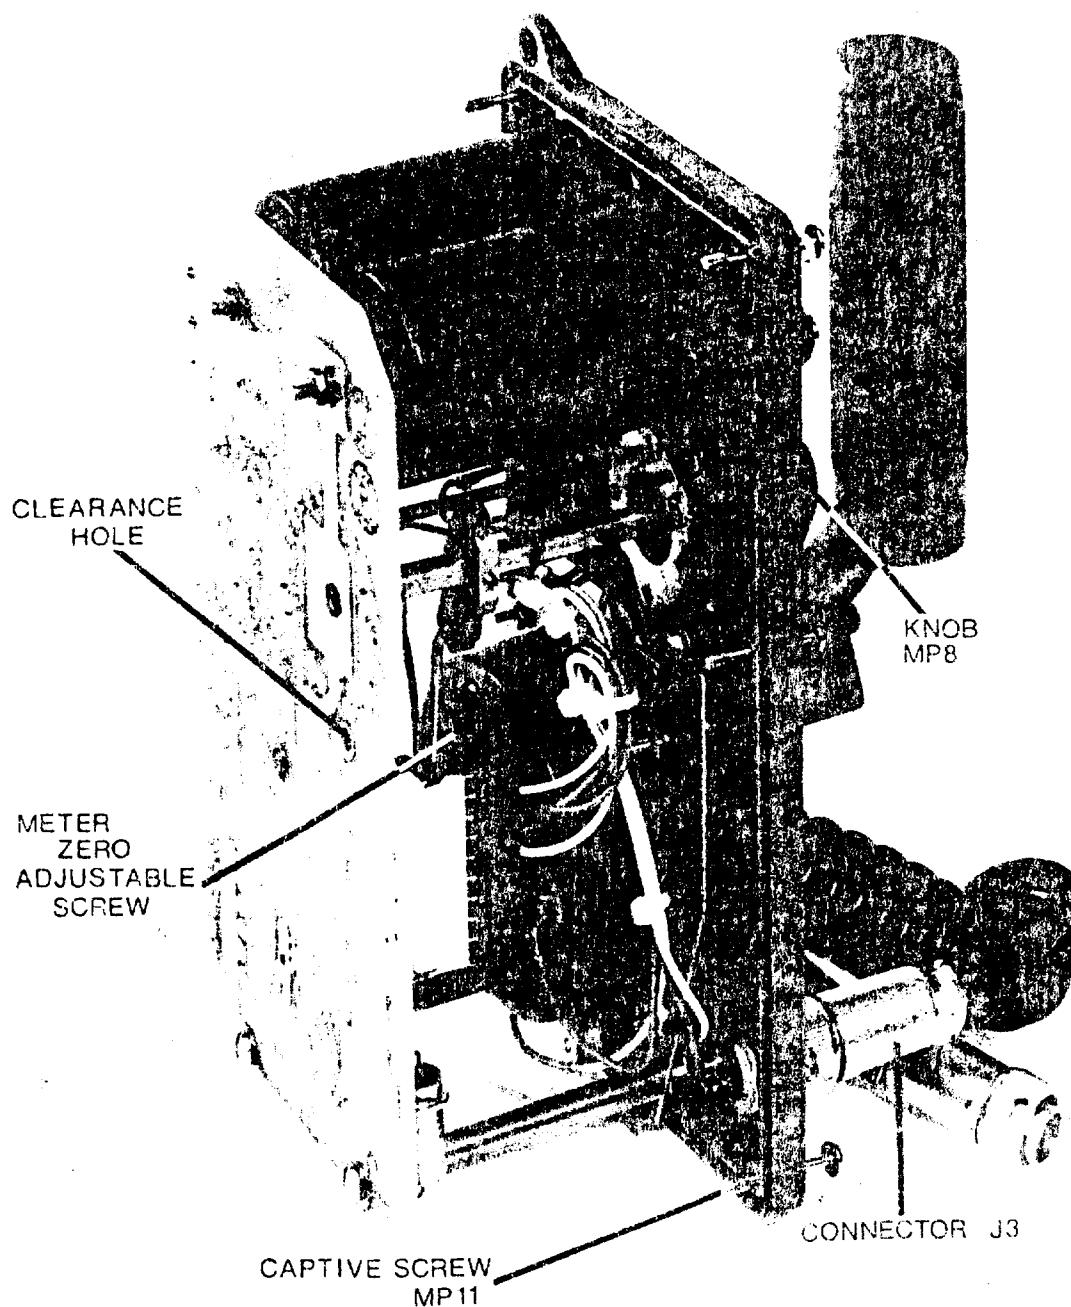

FIGURE 6-6. RADIACMETER IM-238A/PDR-27T, RIGHT SIDE
(1) The instrument housing should be examined for any mechanical damage.
(2) The range switch should be turned to its various positions to see that the switch knob and meter scales index properly.
(3) The meter should be examined. Observe the meter needle to see that it is not bent. Observe whether the needle is mechanically zeroed. (Meter zeroing may be accomplished by removing the radiacmeter from its housing and turning the meter zero adjusting screw located on the rear of M1. (See Figure 6-6). A clearance hole is provided in the printed circuit board for this purpose.
(4) The battery cover should be removed, and the battery contacts inspected for cleanliness. Check to insure that the batteries have been properly installed and that the battery condition (BATT on selector switch) indicates satisfactorily.
(5) The instrument housing should now be opened by loosening the six captive screws holding the housing and cover together. Visually examine the internal assembly.
(6) Turn the range switch S1 and observe the operation of the switch to see that it appears to be working satisfactorily.